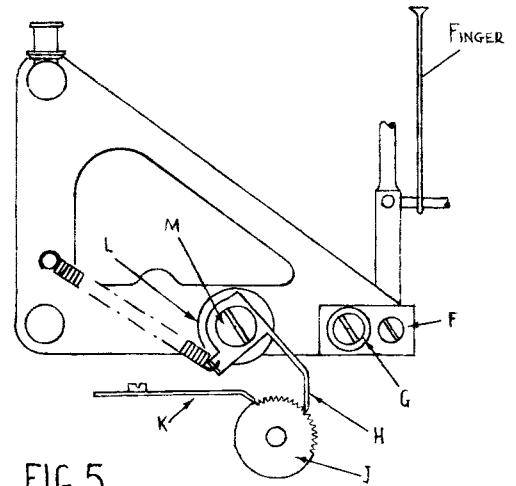

FIG. 5
- 12 TURN CAM UNTIL FINGERS ARE FULLY LIFTED BELLCRANKS SHOULD BE CENTRALLY ABOVE NOTCHES IN COMBS. TO ADJUST, WITHDRAW FINGERS & USE ECCENTRIC F (FIG 5). CLAMP BY SCREW G RAISE FINGERS AGAIN TO CHECK THE ADJUSTMENT.
- 15 ADJUST RIBBON FEED PAWL, H (FIG 5), TO FEED RATCHET J APPROX  $1\frac{1}{4}$  TEETH (ALLOWING RETENTION PAWL K TO TAKE UP ONE TOOTH) USING ECCENTRIC L. CLAMP BY SCREW M.